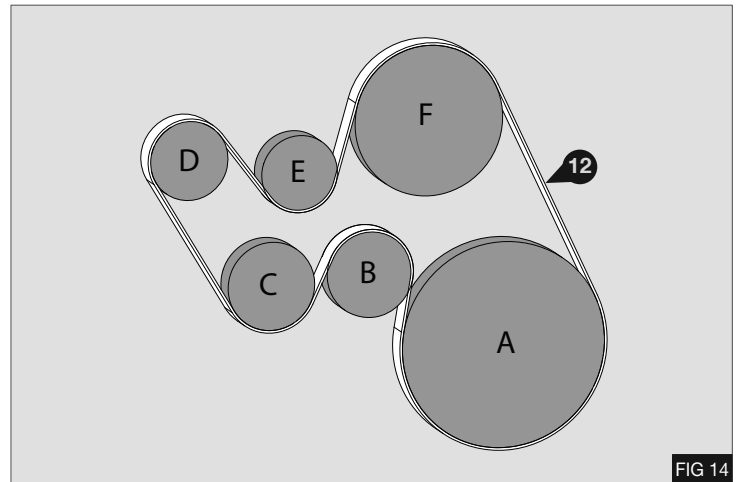

FIG 14
18. Fit the supplied drive belt (12), and remove locking pin from auto tensioner (A) - Fig 14